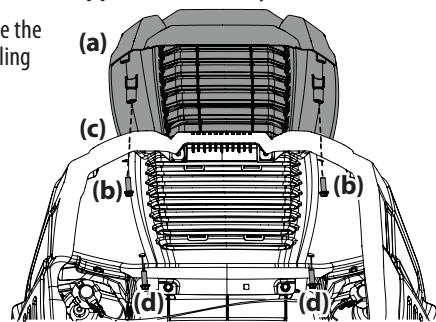

Figure 5
2. Secure the screw-on hood topper (a) from below, hand-tighten the screws (b) on the rear half of the hood and then securely tighten them. See Figure 5.
3. With the rear screws in place, align the holes in the hood topper (a) with the holes in the hood (c) and secure in place with remaining two screws (d). See Figure 5.